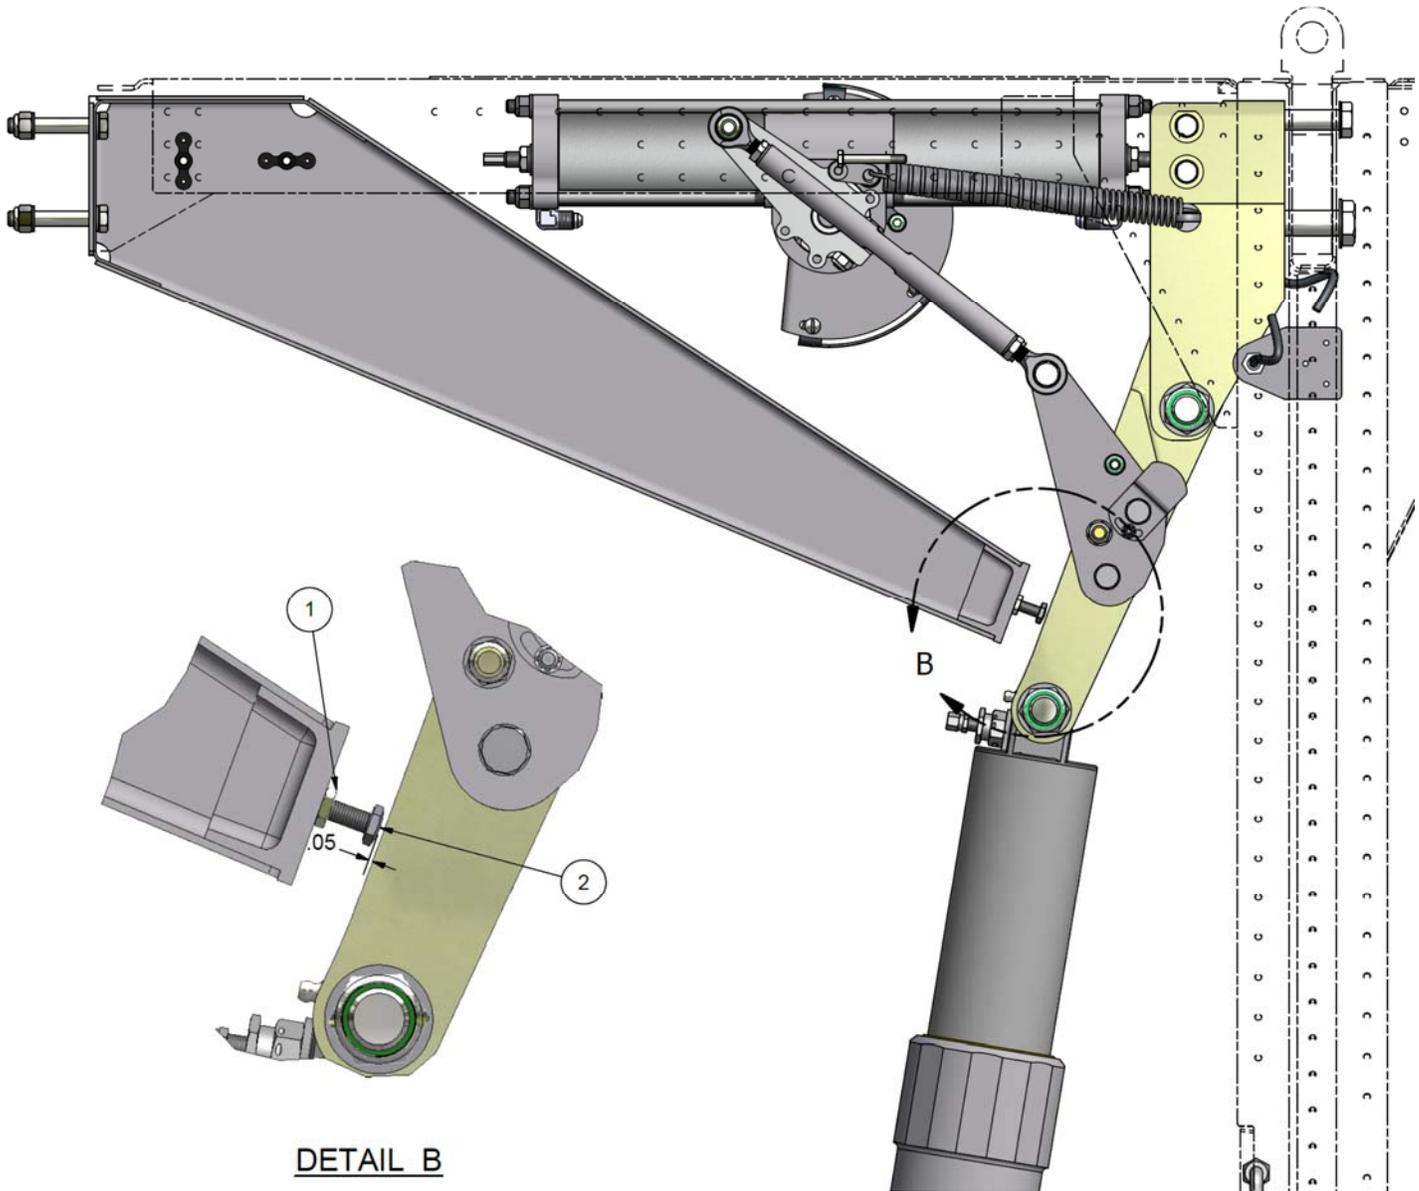

FIGURE 4-6: MAIN GEAR DOWN STOP ADJ.
30. Loosen the (Fig 4-6, Item 1) jam nut on the Main Gear Down Stop Assembly, and screw in the NAS-428 adjustment bolt (Fig 4-6, Item 2). Verify the bolt does not touch the Top Arm when gear is in the down position. When the aircraft is off the jack stands and the weight of the aircraft fully on the